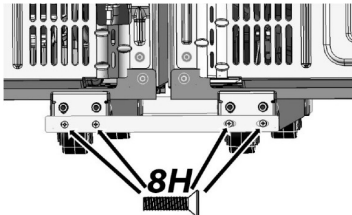

Fig. 15
16. Attach the other 9H bracket to the rear levelers (Fig. 15), keeping the right screws loose. **Hand tighten only!**